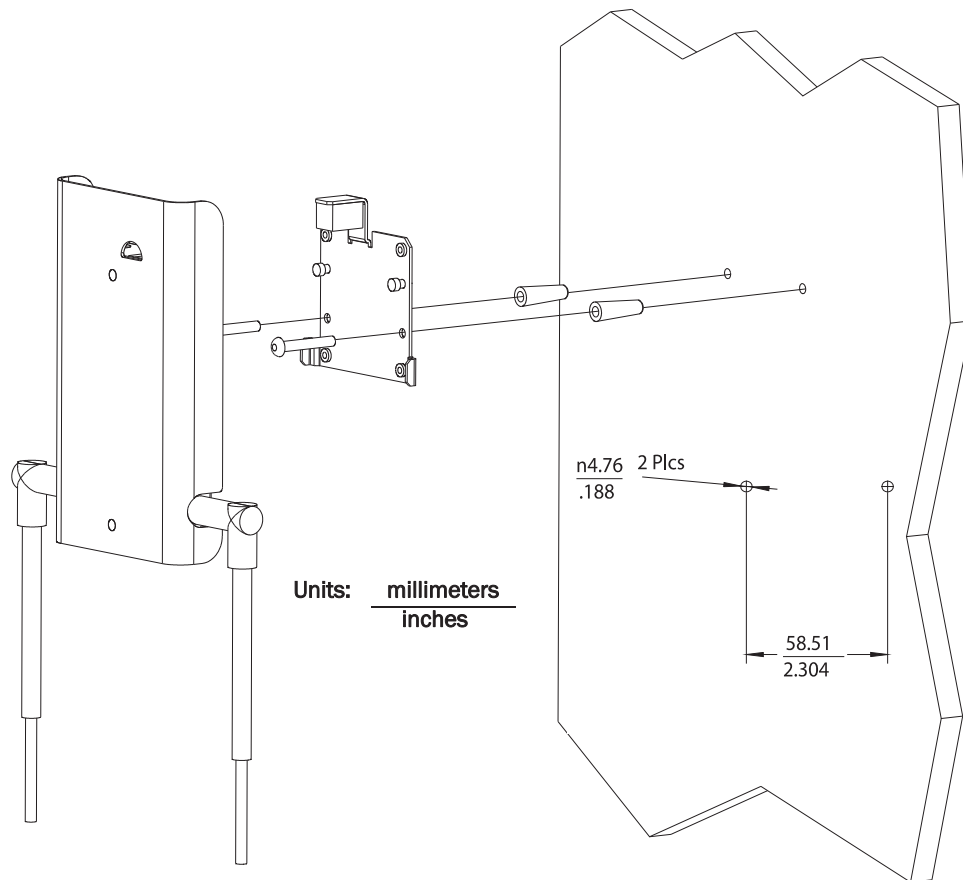

Figure 2-15: Mounting the ITS 1.4 GHz RA to a Wall (CA Earthquake Rated)
1. Using a 3/16-inch drill bit, drill two pilot holes .188 inches (5 mm) in diameter at the locations shown in Figure 2-15.
3. Secure the quick release wall plate to the wall by screwing a supplied #6 x 1 1/4 inch self-tapping screw through the wall plate into each screw anchor (or pilot hole) as shown in Figure 2-15.
4. While holding the RA chassis with its antennas pointing down as shown in Figure 2-15, fit the openings in the back of the RA chassis over the two mounting studs that protrude from the wall plate, and then slide the RA chassis down so that the mounting studs are securely in the grooves in the back of the RA chassis.